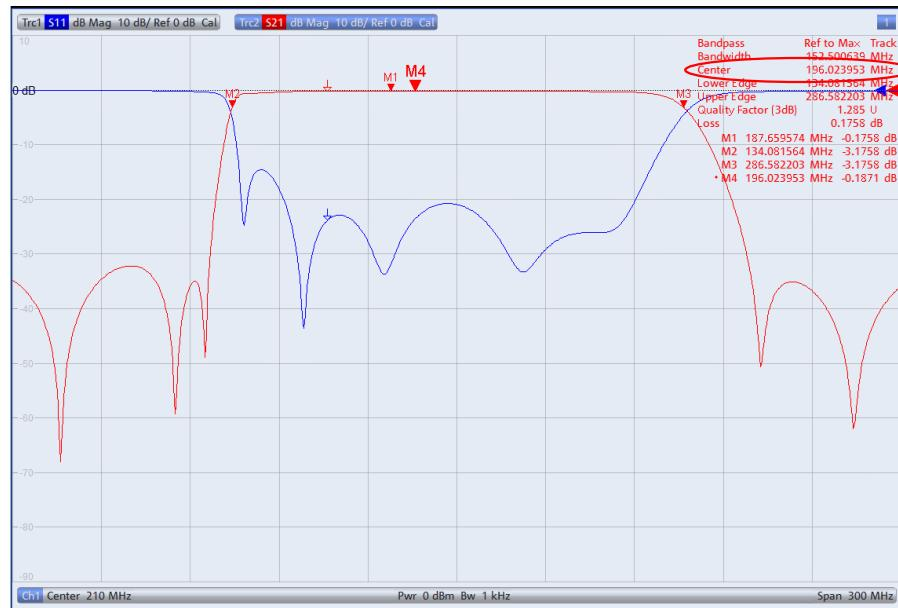

Fig. 5-9: Display of all relevant values for a bandpass.
- Bandwidth*: Enter *3 dB* and then enable *Bandpass Ref to Max*. As shown in Fig. 5-9, all relevant values for the bandpass are displayed at the top right corner of the screen.
- By default, the geometric mean (marker M4) $f_0 = \sqrt{f_H \cdot f_L}$ ($f_L=M2$; $f_H=M3$) is displayed for the center frequency; in this case: $f_0=196.023953$ MHz (Fig. 5-9). To display the arithmetic mean: